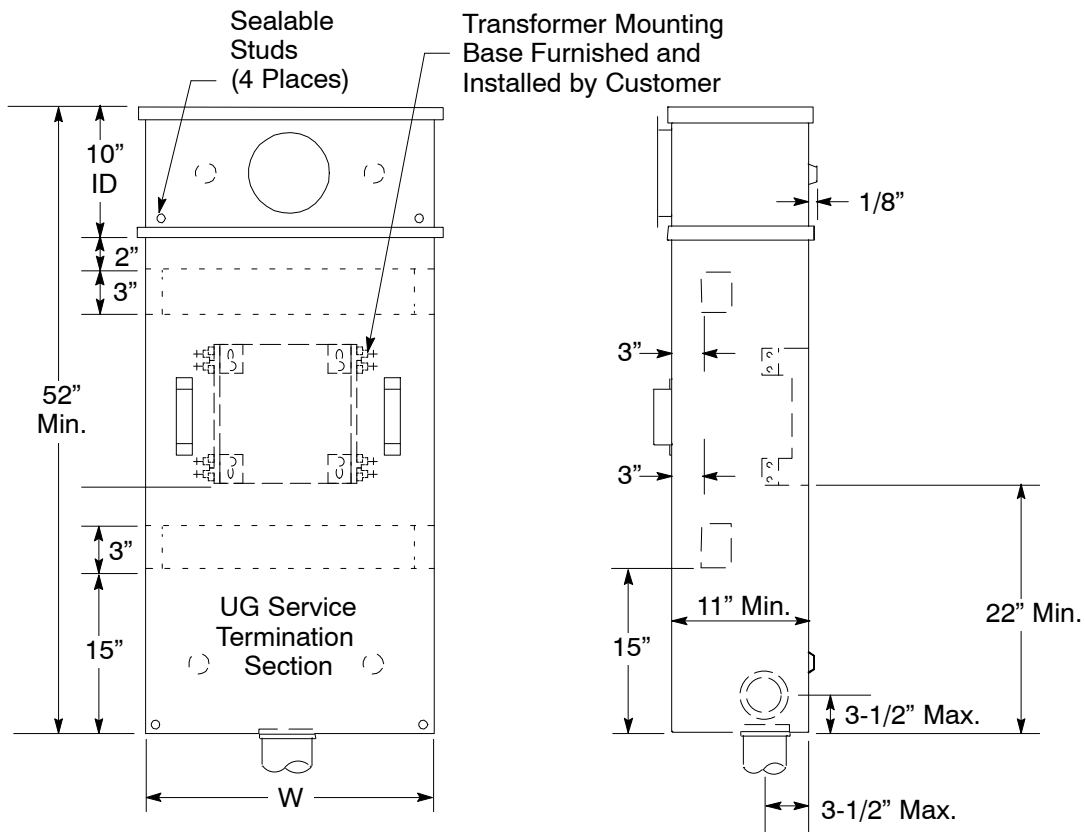

Figure 5
- (2) Combination service pull, meter, and CT mounting enclosure, 201 through 400 amp, for single or three-phase service (see Figure 5 on Page 6).